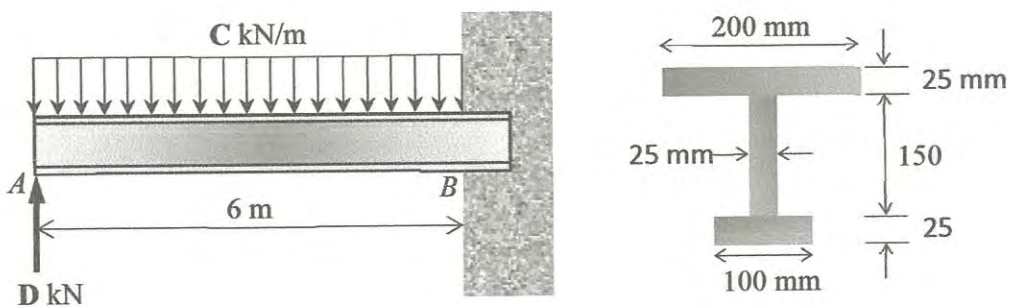

Figure Q2
- Q2** A uniformly distributed force of C kN/m and a concentrated load of D kN are applied to a cantilever beam with a cross-section as shown in **Figure Q2**. By using the parameters listed in **Table Q2**.